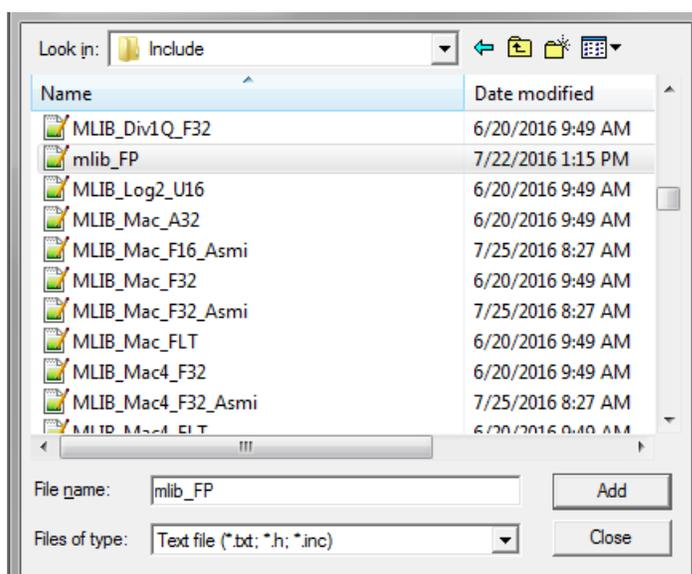

Figure 1-34. Adding .h files dialog
4. Navigate into the library installation folder C:\NXP\RTCESL\CM7F_RTCESL_4.5_KEIL\MLIB\Include, and select the *mlib_FP.h* file. If the file does not appear, set the Files of type filter to Text file. Click Add. See Figure 1-34.